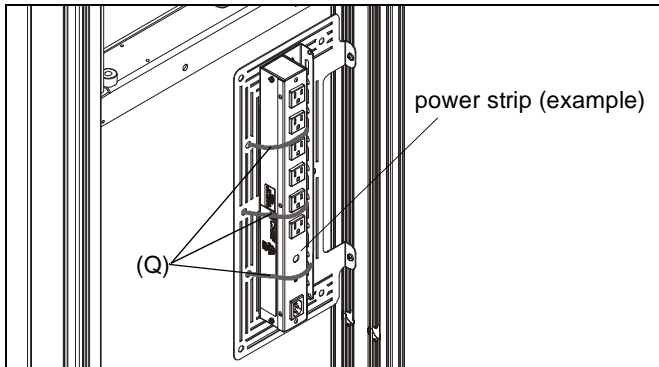

Figure 7
**WARNING:** Exceeding the weight capacity can result in serious personal injury or damage to equipment! It is the installer's responsibility to make sure the combined weight of all accessories and components installed to the component bracket (C) does not exceed 10 lbs (4.54 kg). Exceeding the weight capacity may result in damage to the equipment or components!
5. Install components to component bracket as desired using cable ties (Q), cable clips (BB) or screws. (See Figure 7)